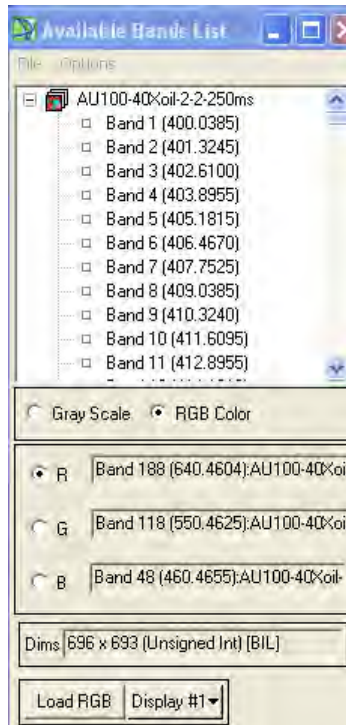

Figure 10. Available Bands List
2. Upon opening an image file, the file name appears in the Available Bands List (see Figure 10)